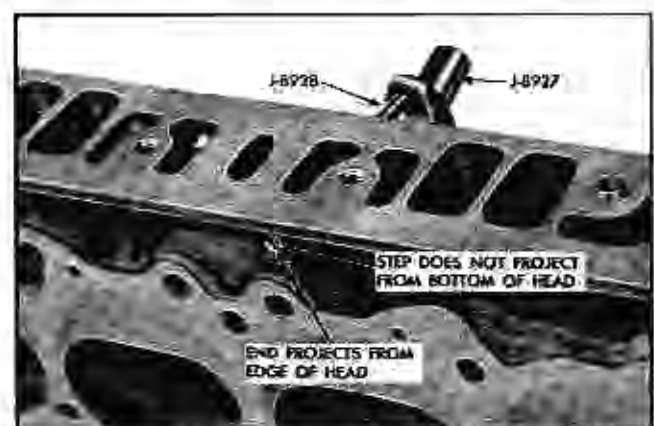
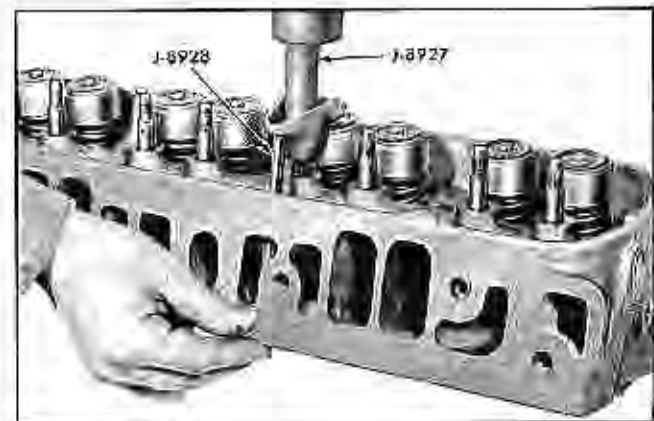

Fig. 6-29 Position of Gauge J-8928 when Stud is Properly Installed
Fig. 6-33 Pressing in New Rocker Arm Stud
When installing new head, transfer all serviceable parts to new head using new seals on intake and exhaust manifold valve stems, and new exhaust manifold gasket. Install new intake manifold gasket locating sleeves. Check rocker arm position with valve train gauge J-8928 (Fig. 6-29).
9. Coat rocker arm stud with white lead and oil and with cylinder head mounted in press on tool J-5712 so studs are vertical, position new stud with rocker arm and rocker arm stud installer over hole in head (Fig. 6-33).
12. With valve seated, slowly press rocker arm stud into cylinder head (Fig. 6-33) until gauge projects about midway between the end of the gauge and the step with respect to the gasket surface of the cylinder head (Fig. 6-29).